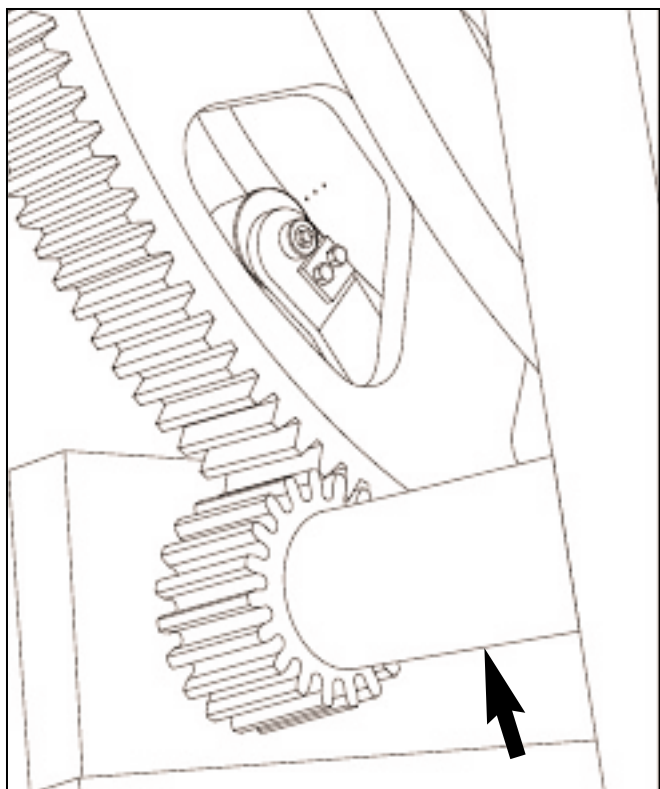

Figure 11.6 PINION SHAFT.
11.2.5 PINION SHAFT (FIGURE 11.6 AND 11.7)